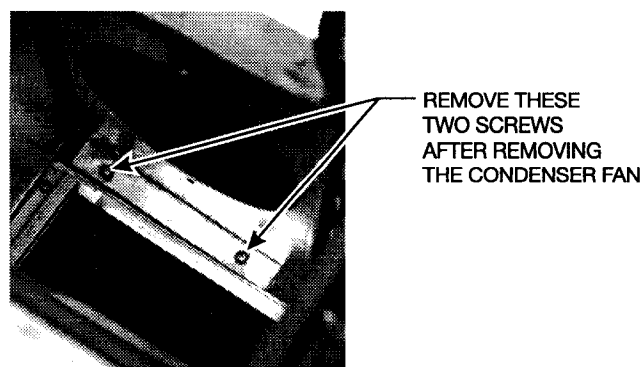

Figure 18
2. Carefully cut the tape sealing the top insulation and remove. **See Figure 18.**
3. Remove the screws attaching the condenser fan and set aside. Remove the two screws in the bottom of the fan wall. **See Figure 18.**